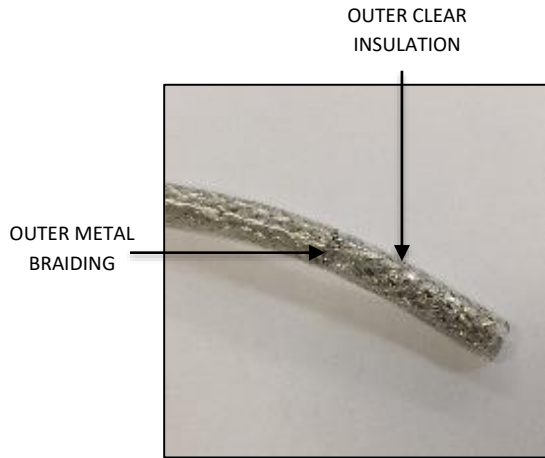
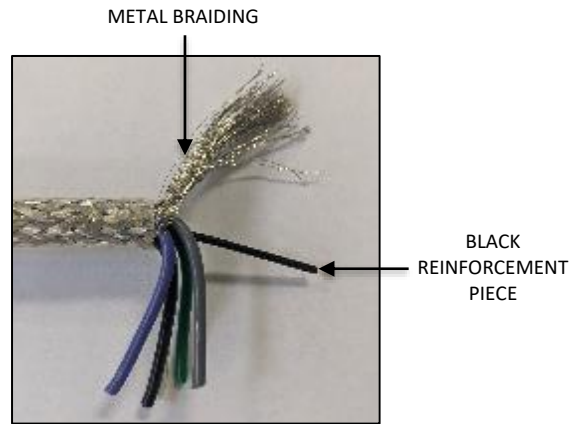

FIG. 19
FIG. 20
- Strip off 1.00" of outer clear insulation exposing the outer metal braiding as shown in FIG. 19 below. **Be careful not to cut or damage the outer metal braiding.** Gently push braiding down to loosen the individual braids and pull to one side of inner wires. Locate the solid black plastic reinforcement piece (The thinner black wire that has no copper wires inside). Cut the metal braiding and thin black wire back to outer insulation as shown in FIG. 20 below.